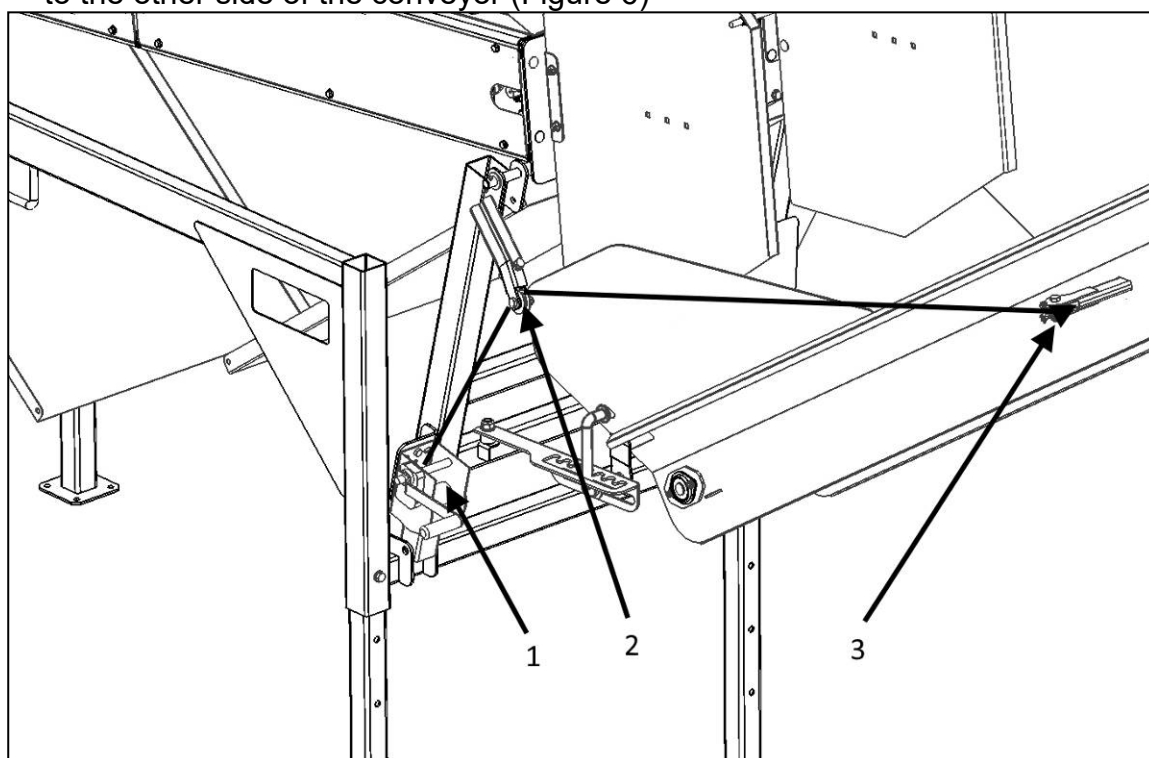

Figure 6
5. Remove the winch wire from the winch (Part 1) from behind the corner block (Part 2) above and from the back of the conveyor-folding wheel (Part 3) through the tube to the other side of the conveyor (Figure 6)